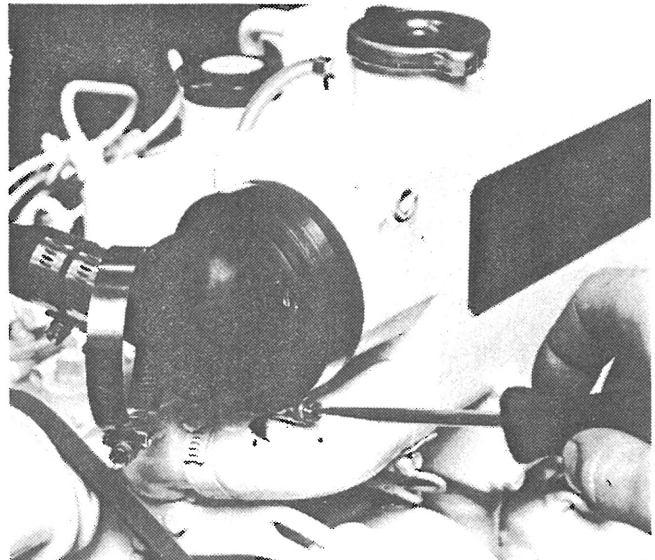

Figure 67 - Loosening clamps to heat exchanger (L-M753)
- a. Loosen the clamps holding both rubber ends on to the heat exchanger housing (figure 67).